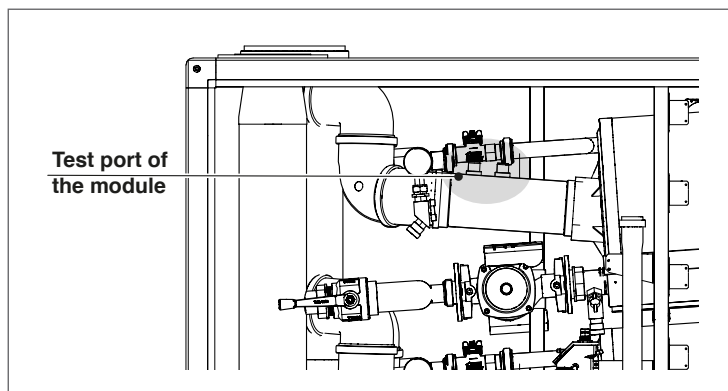

Fig. 13 Test Port for Combustion Analysis (available on each module)
- Insert a combustion analyzer probe into the test port shown in Fig. 13